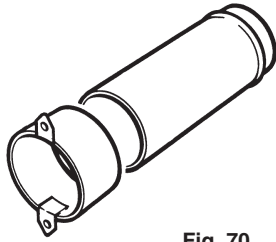

Fig. 70
4. Remove the wall liner from its packing and remove the end piece (Fig. 70).